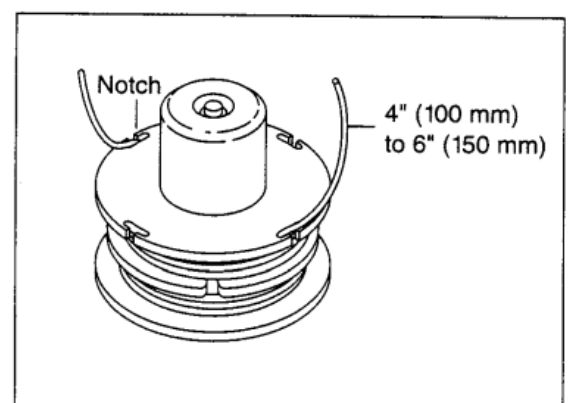

Fig. 26
4. Wind all but about 4" (100 mm) to 6 (150 mm) of the cord, leaving the ends temporarily hooked through a notch on the side of the spool (Fig. 26).